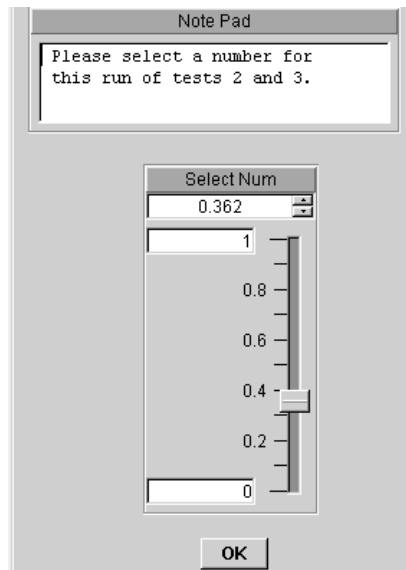

Figure 15.9. The setGlobal UserFunction panel view
25. Size the Panel View to be smaller: position the Note Pad on top, the Select Num in the middle, and the OK button on the bottom. See Figure 15.9.